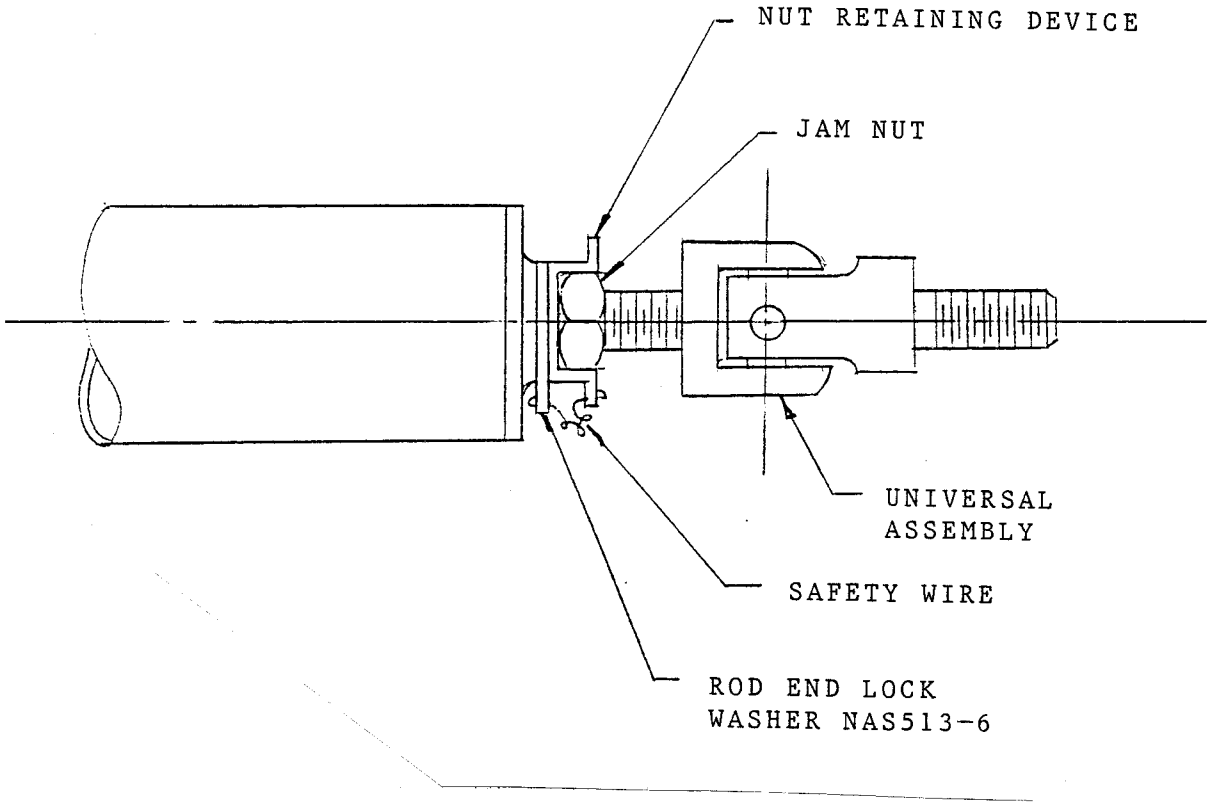

FIGURE 1 - A6201-2 END FITTING
- A. Cut safety wire on rod end lock washer, part number NAS513-6, as shown in Figure 1.